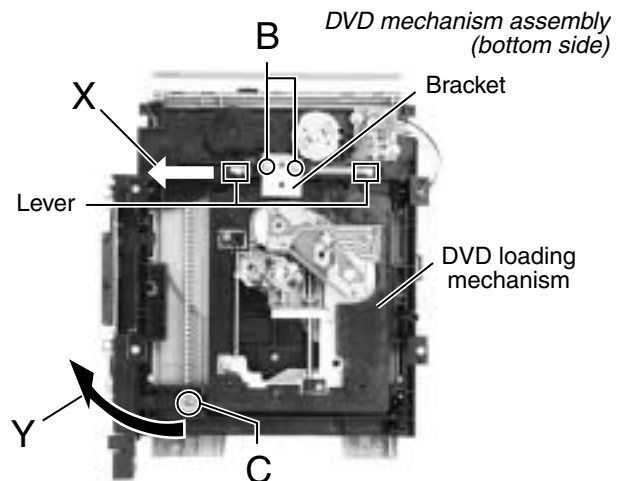

Fig.4
■ Removing the DVD loading mechanism (See Fig.4)